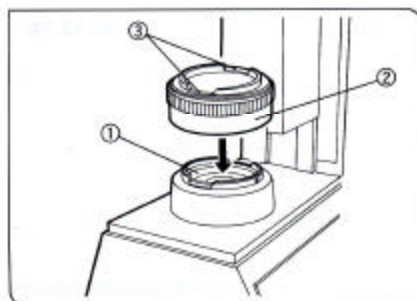

Fig. 9
(Fig. 9)
Holding the field iris diaphragm attachment (2) over the light glass exit (1) with the filter holder notches (3) positioned as shown in Fig. 9, insert the attachment into the light glass exit opening until it seats with a click.
- ★ Attempting to insert the attachment with the notches (3) facing in other directions than shown in Fig. 9 may break the mounting clip.